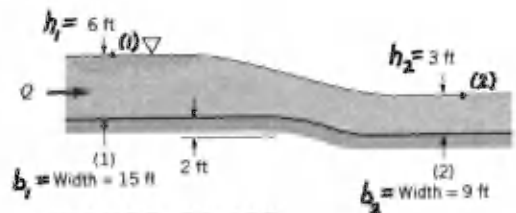

FIGURE P3.15R
3.15R (Channel flow) Water flows down the ramp shown in the channel of Fig. P3.15R. The channel width decreases from 15 ft at section (1) to 9 ft at section (2). For the conditions shown, determine the flowrate.